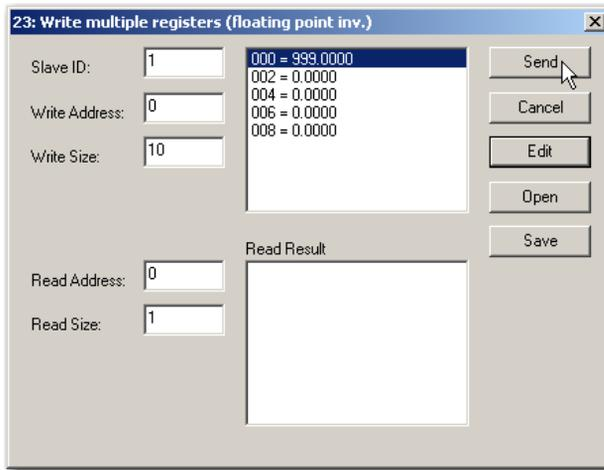

FIG. 248 HARDY MODBUS-LINK/WRITE MULTIPLE REGISTERS/SENDING NEW VALUE
- Step 6. Click on OK. The Write Multiple Registers display appears with “999.0000” in place of “555.0000”. (See Fig. 248)